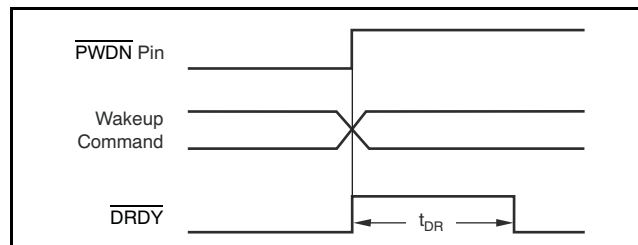

Figure 25. $\overline{\text{PWDN}}$ Pin and Wake-Up Command Timing
In power-down, note that the device outputs remain active and the device inputs must not float. When the Standby command is sent, the SPI port and the configuration registers are kept active. Figure 25 and Table 12 show the timing.
(1) See Figure 25 and Table 12 for time to new data.